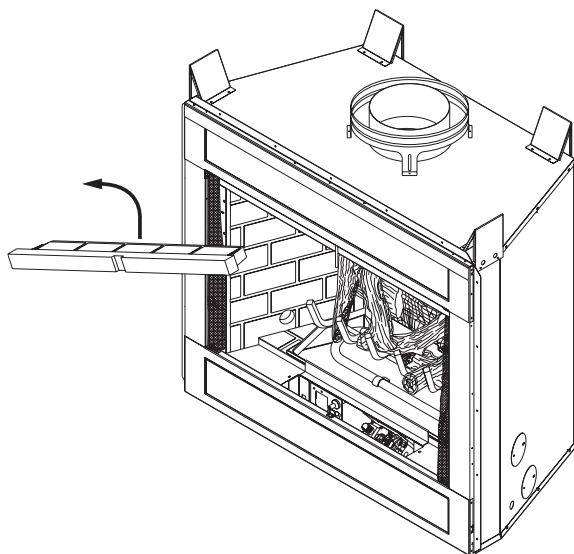

Figure 13 - Removing Front Refractory Access Panel
1. Remove the front refractory access panel by lifting up and angling out of the firebox opening (see Figure 13).
1. Remove the front refractory access panel by lifting up and angling out of the firebox opening (see Figure 13) to expose controls.